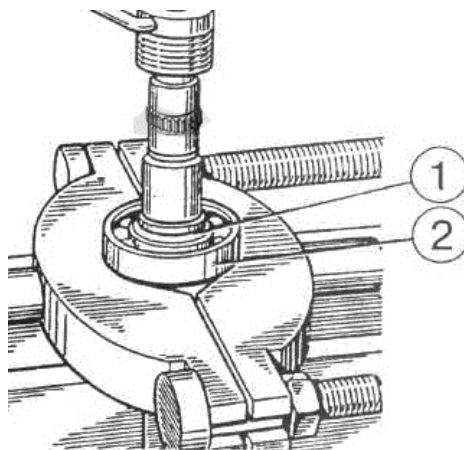

Figure 4.38
- i) remove locking ring 1 (Figure 4.38);